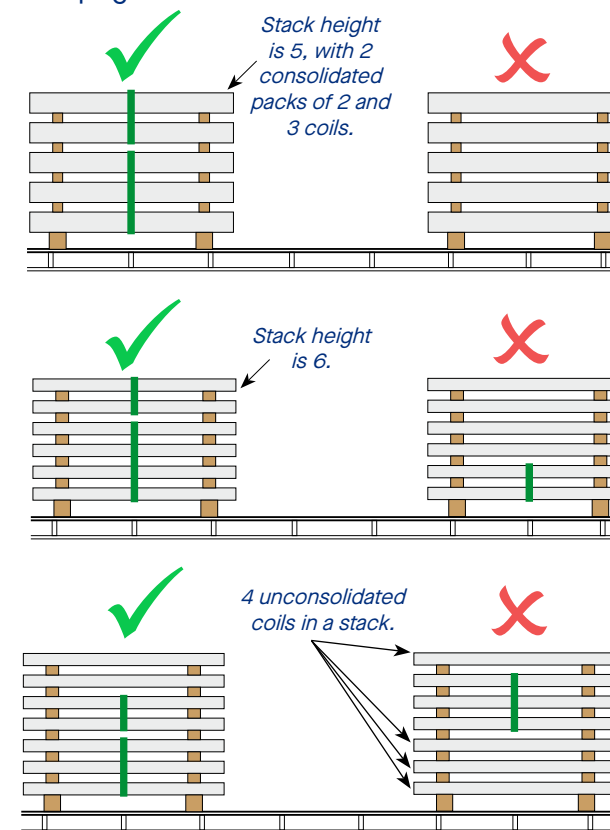

Fig 3.4: Maximum number of unconsolidated coils in a stack is 3.
- ✓ The maximum number of unconsolidated coils in a stack is 3. (Eg. A stack of 5 slit coils must have at least 2 of the coils strapped together using steel strapping). (Fig. 3.4)